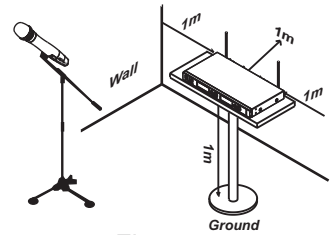

Fig.7
4. For ideal reception range, install the receiver at least 1 meter above the ground and away from EMI / RFI “noise” sources. In addition, place the transmitter at least 1 meter away from the receiving antenna, as shown, Fig. 7.